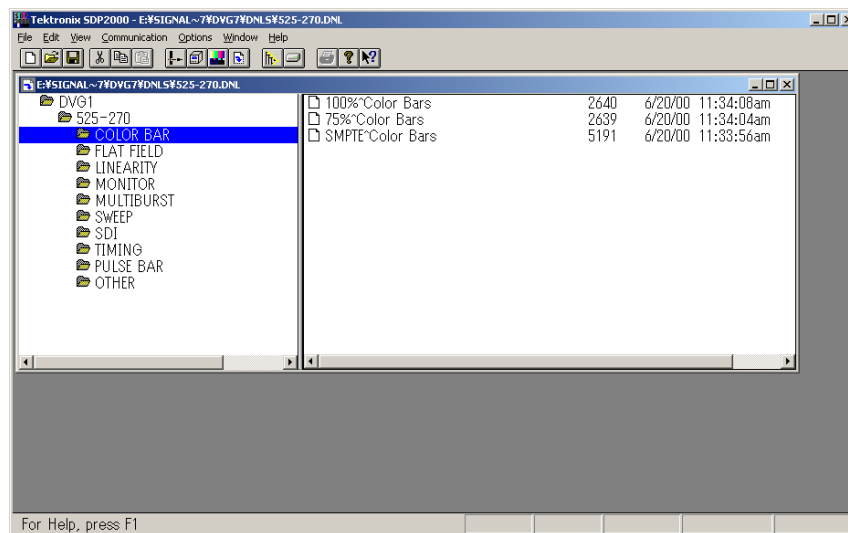

Figure 9 Window when Opened a DNL File with SDP2000
STEP 8 DNLS directory under each of module directories contain DNL (download) file(s). By double-clicking on a DNL file, the DNL file opens and you can verify the test signals contained in the DNL file (refer to Figure 9). The list of test signals contained in each of DNL files is also provided in text file format under DNLS directory.